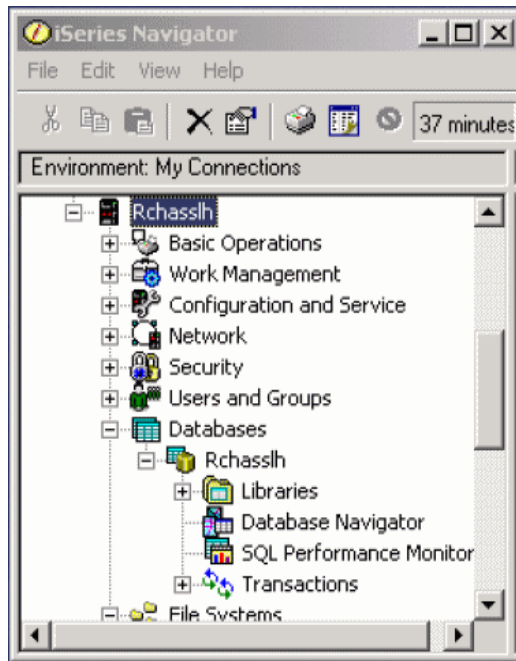

Figure C-1 Starting System i Navigator
- a. Start an System i Navigator session and select the system that is partitioned as shown in Figure C-1.